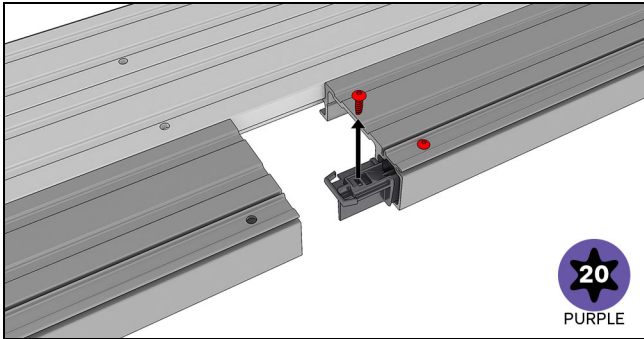

Figure 32
4. Remove the screws from the splice keys. See Figure 32.